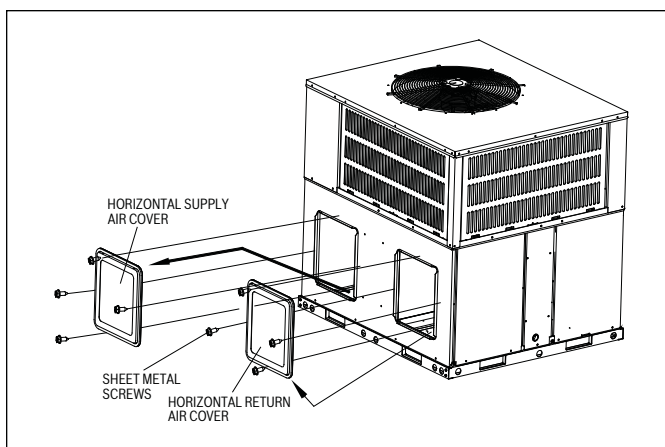

Figure 13
1. Remove the sheet metal screws securing the supply air cover and the sheet metal screws securing the return air cover from the base of the unit. Remove the covers from the base. See Figure 13.
2. Place the covers over the horizontal supply and return openings (painted side out). Align the screw holes, and secure using the same screws removed in step 1. See Figure 13.